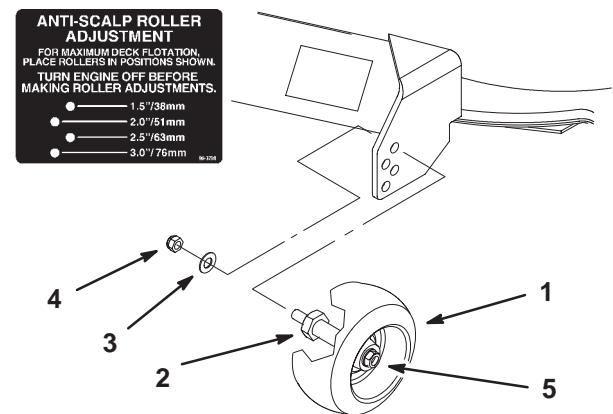

Figure 18
2. After adjusting the height-of-cut, remove the nut and washer while holding the stud with a wrench (Fig. 18).
Note: Do not remove the wheel nut and washer (Fig. 18).
3. Select a hole so that the gage wheel is positioned to the nearest corresponding height-of-cut desired (Fig. 18).
4. Reinstall the stud nut and washer (Fig. 18).